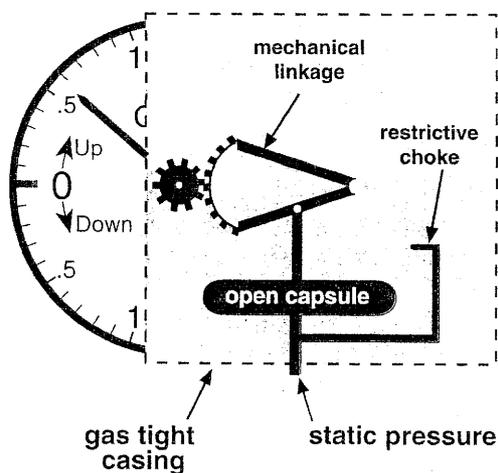

fig T52
**Vertical Speed Indicator (VSI):** See fig T52.